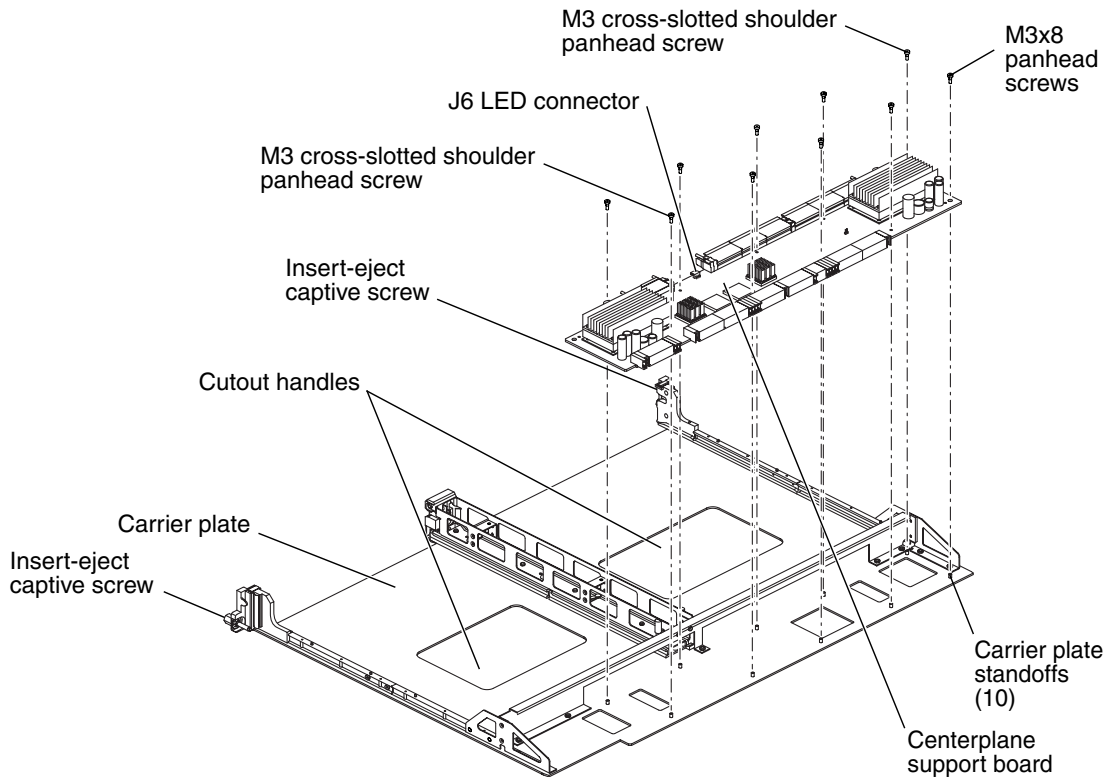

FIGURE 11-2 Centerplane Support Board and Carrier Plate
4. **Be sure to read the label on the inside corner trims of the chassis and then use the two (2) 0.5 in. (13 mm) nut drivers to loosen the carrier plate captive ejector screws simultaneously until they are fully disengaged.**
7. **Using a Phillips No. 2 screwdriver, remove the two (2) M3 cross-slotted shoulder panhead screws.**
8. **Remove the eight (8) M3x8 panhead screws.**
9. **Firmly grasp the centerplane support board lifting upward and pulling out away from the carrier plate standoffs (FIGURE 11-2).**